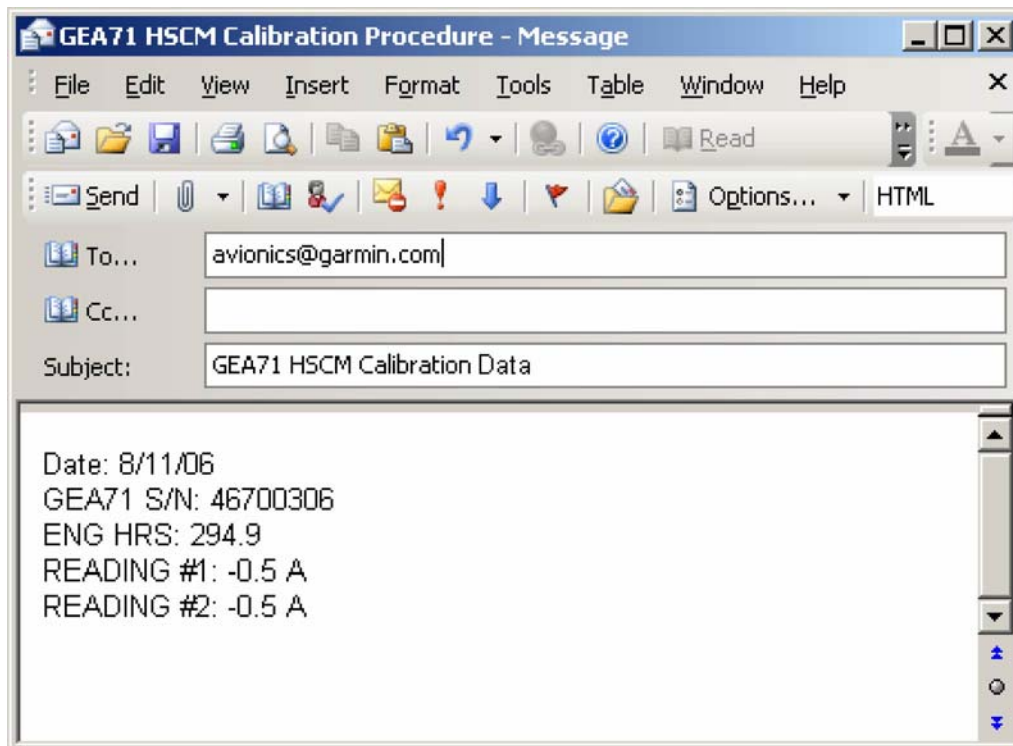

Figure 2-31. Example Post-Calibration Email
55. Email the date of calibration, GEA 71 serial number, engine hours, and value of READING #1 and READING #2 to avionics@garmin.com. Please enter “GEA 71 HSCM Calibration Data” in the subject line, as shown in Figure 2-31.